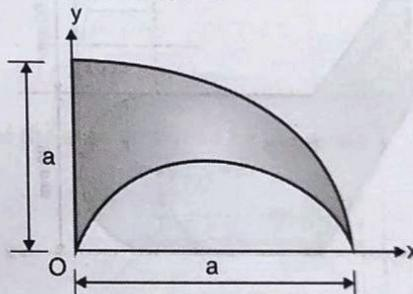

Fig. Q. 5
- 5 Locate the centroid C of the shaded area obtained by cutting a semicircle of diameter a from the quadrant of a circle of radius a as shown in Fig. Q. 5 with respect to origin O.